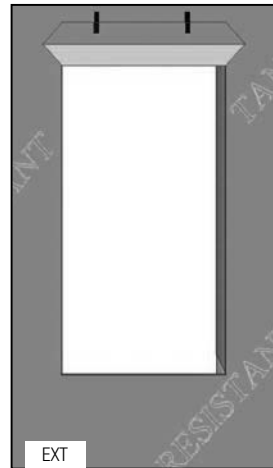

FIG. 6
- G) From the exterior, cut the top of the WRB as shown to form a flap. (Fig. 6)
- H) Temporarily tape this top flap up. (Fig. 6)